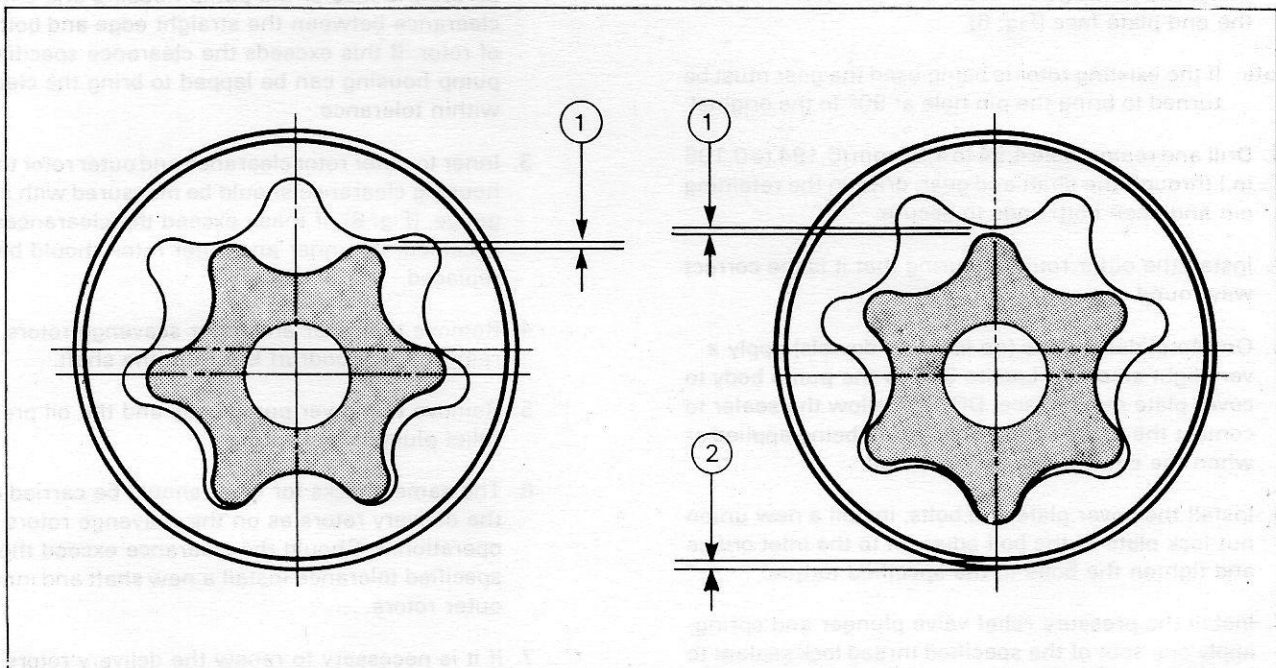

Fig. 8 - Measuring Rotor Clearance - With High Inclination Oil Pans
3. Inner to outer rotor clearance and outer rotor to pump housing clearance should be measured with a feeler gauge, (Fig. 8); if these exceed the clearances specified, the inner and outer rotor should be replaced.